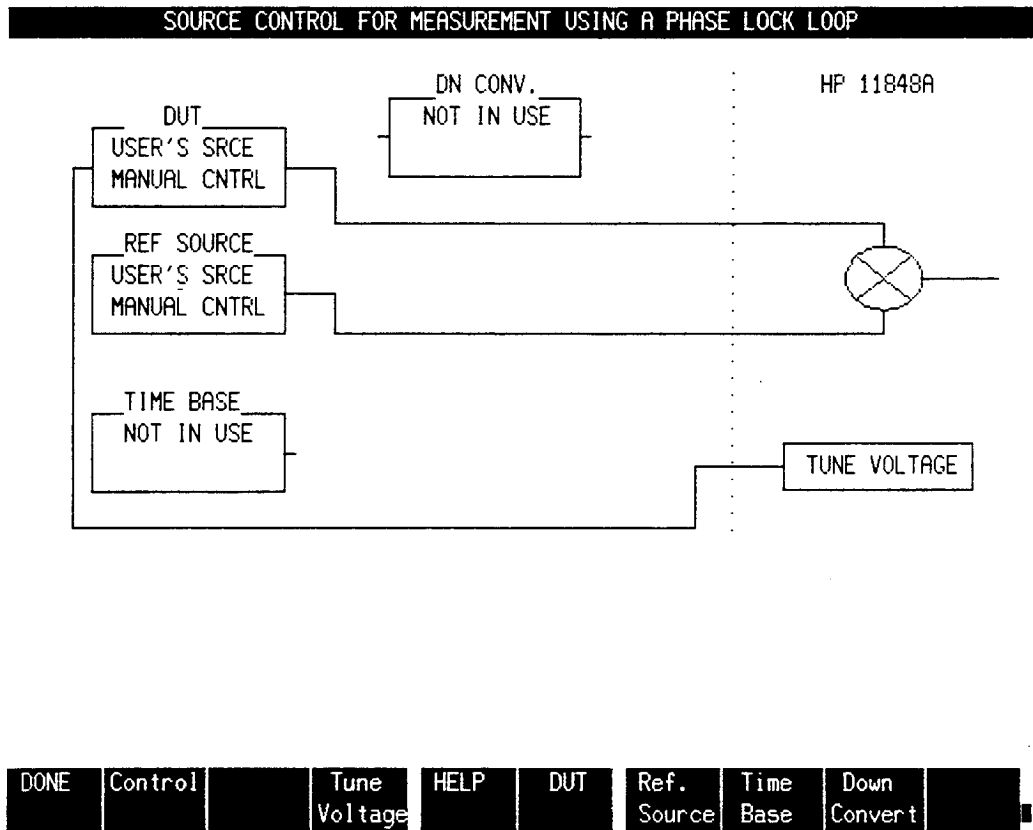

Figure 8-11. Source Control for Measurement Using a Phase Lock Loop Menu
- On the HP 3048A press the **Source Control** softkey to obtain the Source Control for Measurement Using a Phase Lock Loop menu. Set the various devices in the system as shown in figure 8-11. When done, press the **DONE** softkey.